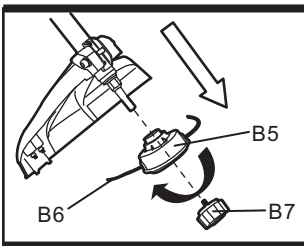

Fig. 18a
4. Remove the trimmer head (B5) by unscrewing anticlockwise the bumper (B7). (See Fig. 18a)